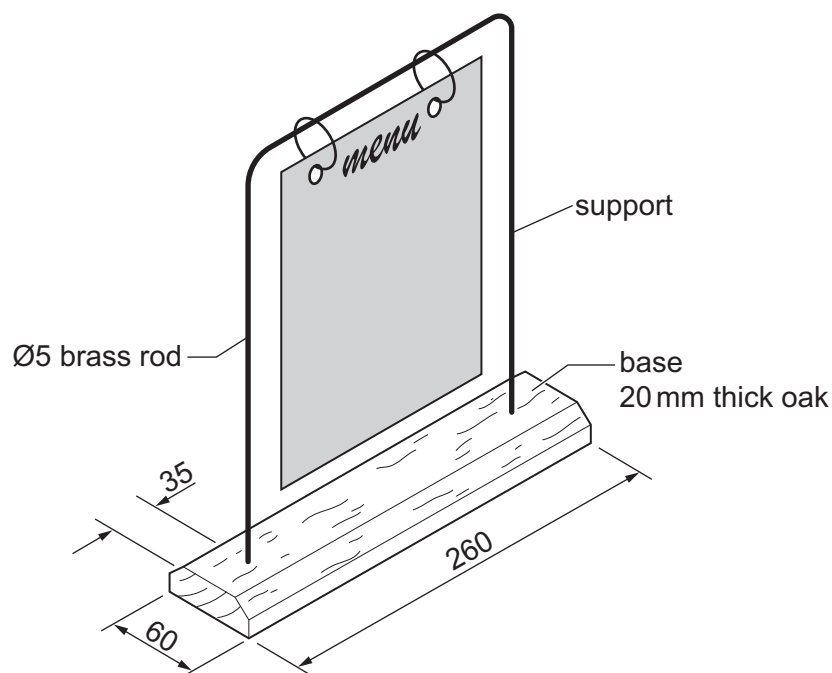

Fig. 13.1
- 13 Fig. 13.1 shows a menu stand that has been produced by a D&T student for use in a local café. A batch of ten menu stands will be produced.